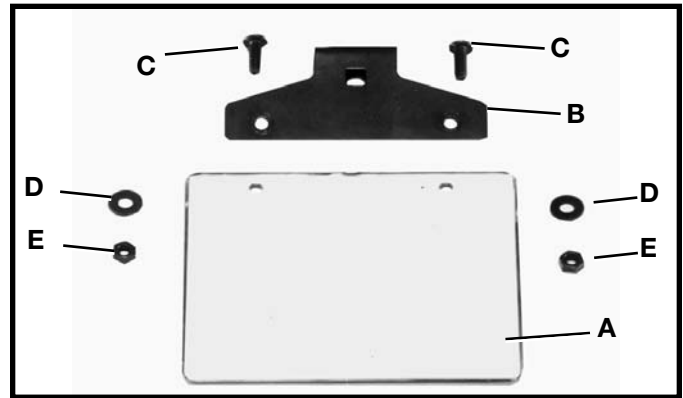

Fig. 3
1. Position eyeshield (A) Fig. 3, under lip of frame (B). Line up holes in eyeshield (A) with holes in frame (B) and fasten eyeshield to frame using two 1/2" long round head screws (C), flat washers (D) and hex nuts (E). Place flat washer on round head screw, place screw through hole and then fasten hex nut to screw under the frame.